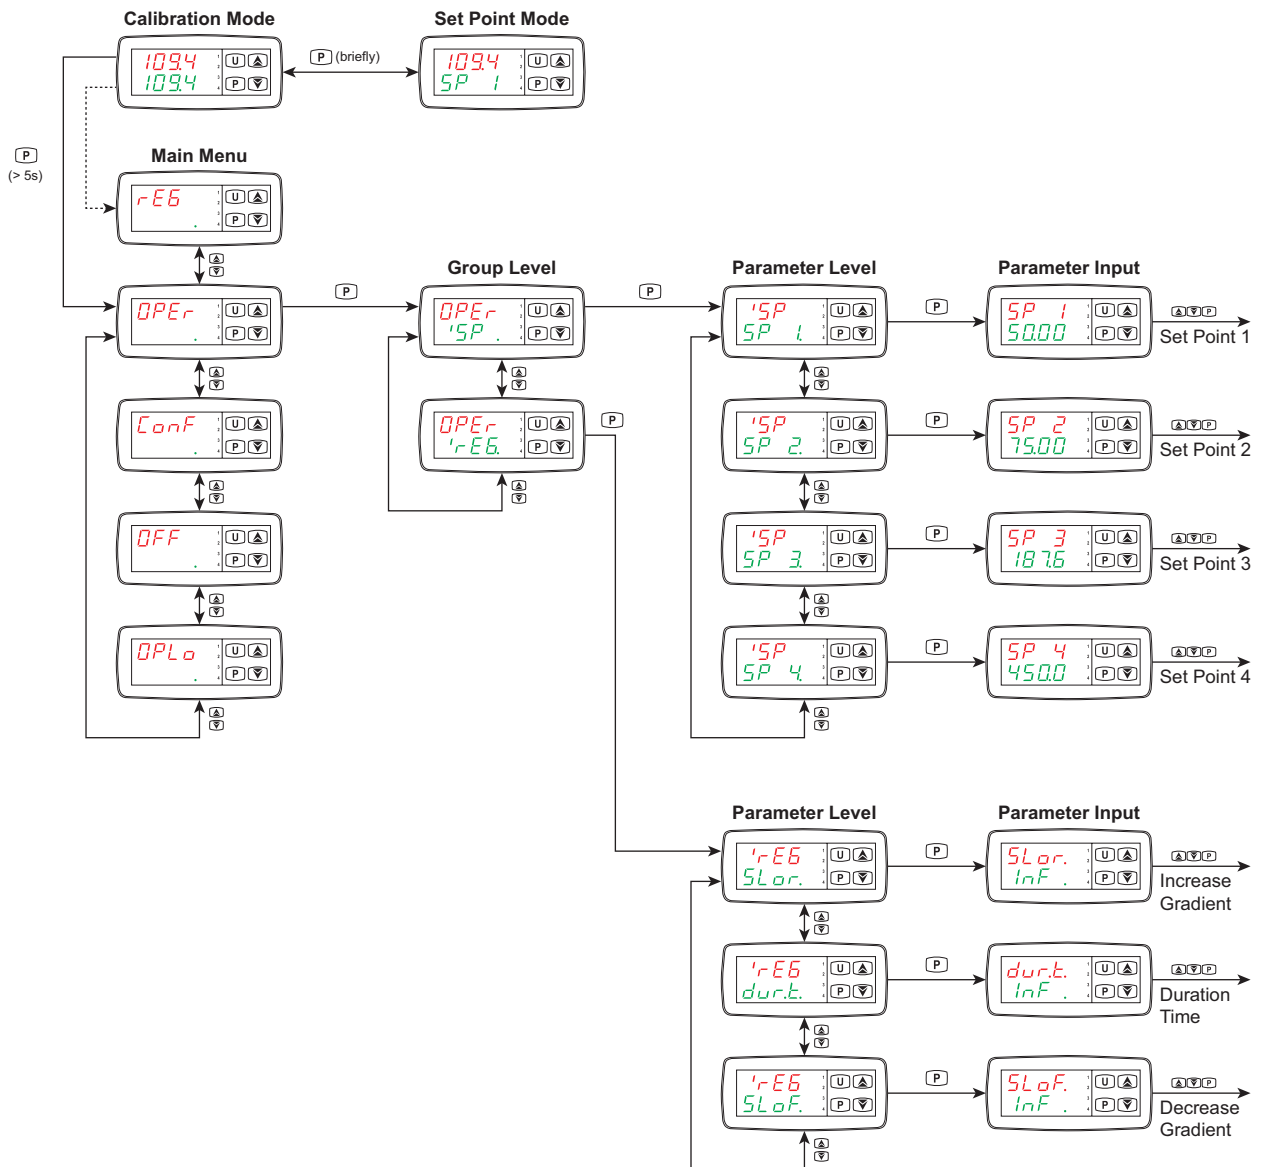

Figure 19: Main Menu Overview
2. Use the  and  keys to select the desired main menu, see Figure 19.